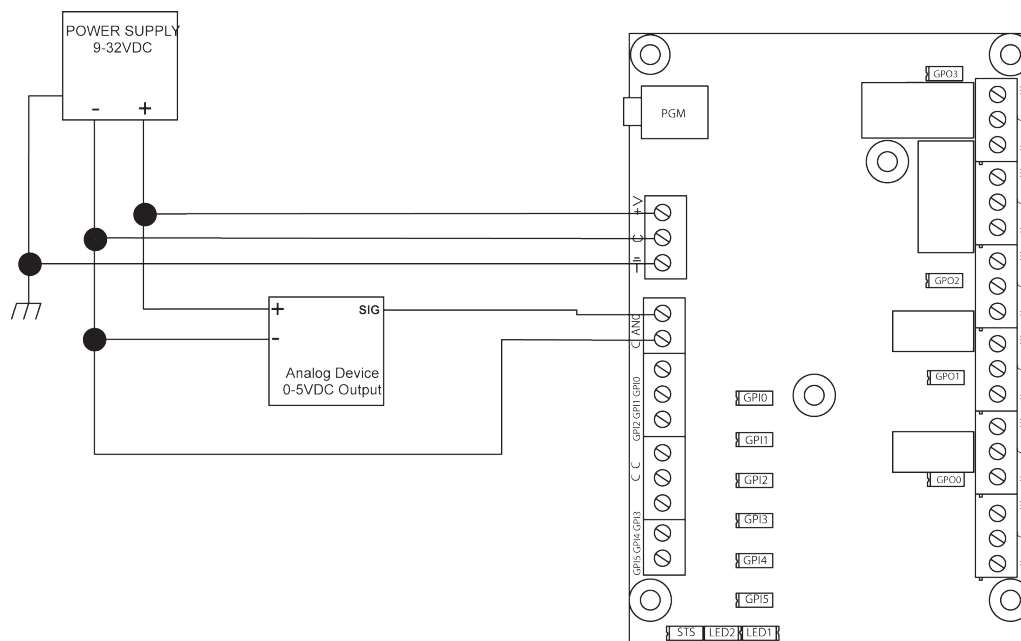

Figure 2.10 - Typical Analog Input Connections
The Micro Bear provides 1 analog input for external devices. The analog input is single-ended with 10 bits of accuracy and can accept an input signal from 0-5VDC. This single-ended analog input requires the analog signal to be input on the AN0 terminal. The analog input common (C) terminal is connected on-board to the input power common terminal (C). An additional analog input is available on the ICM-MB-110 (Micro Bear with Display model). Figure 2.10 shows the typical analog input wiring connections.